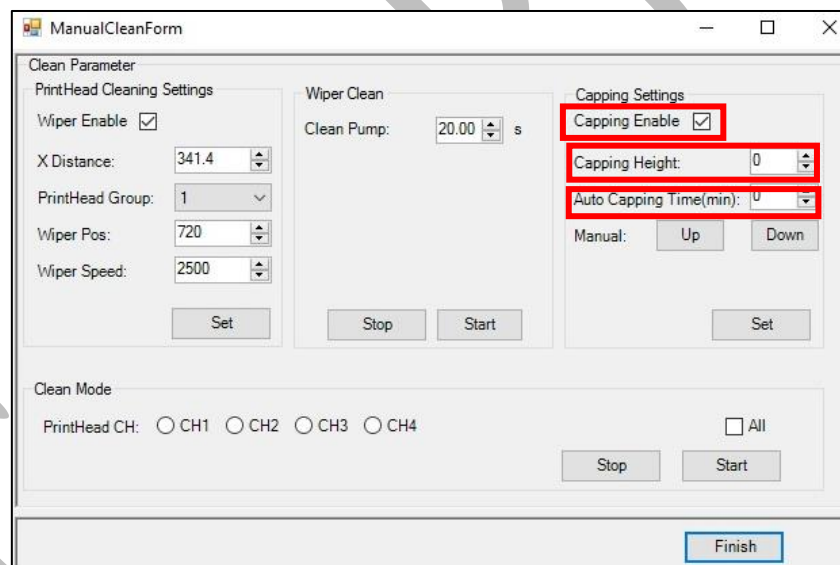

Fig 55: Displaying the Capping Station Settings
Step 3: To enable automatic capping process, select the **Capping Enable** option under the Capping Setting section (Refer to Fig 55).
Step 4: Enter the capping height in the **Capping Height** list box as per the requirements (Refer to Fig 55).
Step 5: Enter the auto capping timing in the **Auto Capping Time(mm)** list box (Refer to Fig 55).
Step 6: After making the desire changes, click on the **Set** button and also press the **Finish** button to complete the process (Refer to Fig 55).